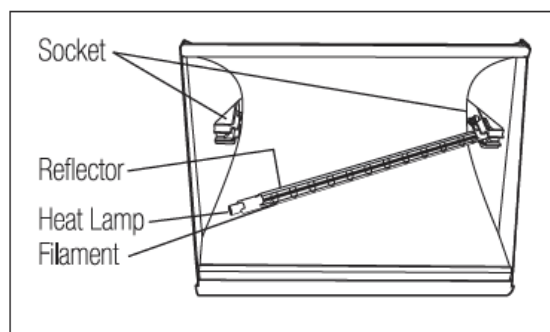

Fig.14
6. Fit one end of the heat lamp into a socket and gently push it away from the other socket. (Fig 14)
Natural skin oils and salts damage new halogen lamps and shorten their life. Only handle a new heat lamp with a soft, dry, clean, lint-free cloth or paper. You can wear gloves, cover your fingers, or wrap the heat lamp until it is installed (so long as you remove all cloth or paper when finished). If your skin touches a new heat lamp, wipe it gently with an alcohol-moistened cloth or paper. The heat lamp is half coated with a white reflector. When you grasp the heat lamp, face the back of the reflector to the ceiling (so you can see the heat lamp's filament). Not doing this will reduce performance. (Fig 14)